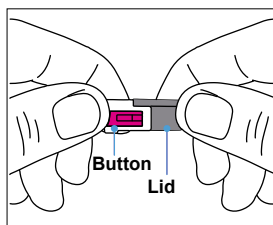

Figure 33
6. The electronic panel is attached to the support frame by two hinges at its base and two spring-loaded latches at the top. To open it, gently push the glass panel to one side and pull the plastic bracket to the opposite side until you feel the latches release (Figure 33).